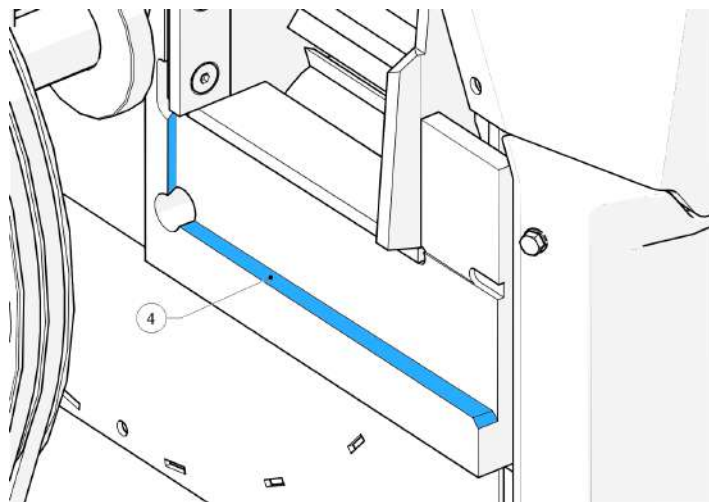

Figure 64 - Anvil seat
12. Make sure the anvil seats are free from dirt and debris before inserting anvil (4, Figure 64).